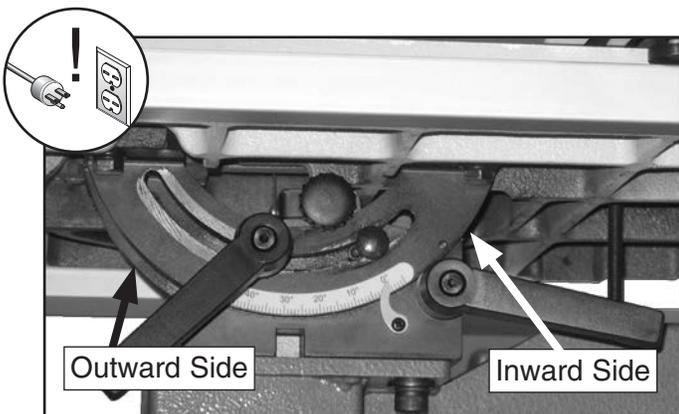

Figure 56. Sides of table trunnions to grease.
2. Wipe the old grease off the bearing surfaces of the table trunnions. Start with the outward side of the table trunnions (see **Figure 56**) when the table is at 0°, then tilt the table to 45° and wipe off the inward side. The old grease will be contaminated with wood or metal dust, so you want to remove as much of it as you can.